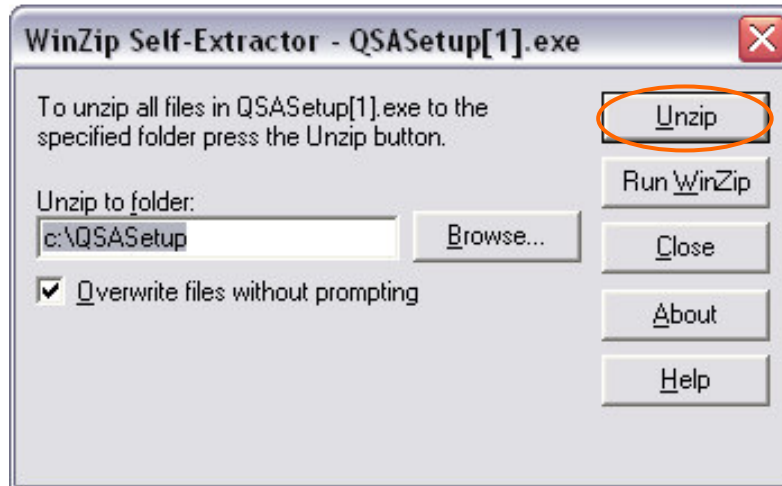

Figure 45 – Extract QSA Editor Zip File
- On the “Welcome to the QSA Editor Setup Wizard” window (as shown in figure 45), click on the “Next” button.